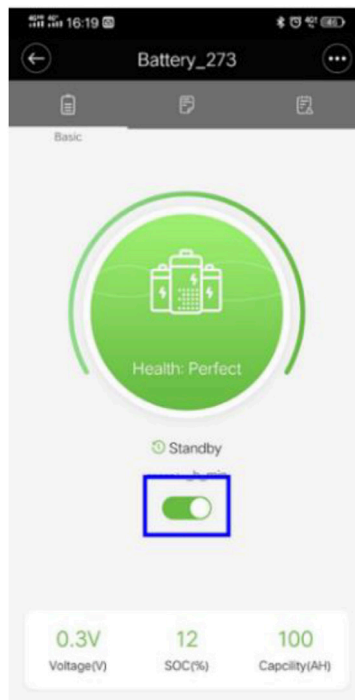

Figure 20: HA™ iT Basic Screen Slider Switch
- On the HAB™ iT Basic screen flip the slider-like switch highlighted in blue shown in Figure 20: KiloVault® HAB™ iT Basic Screen Slider Switch. The status should change to “No charge or discharge.”